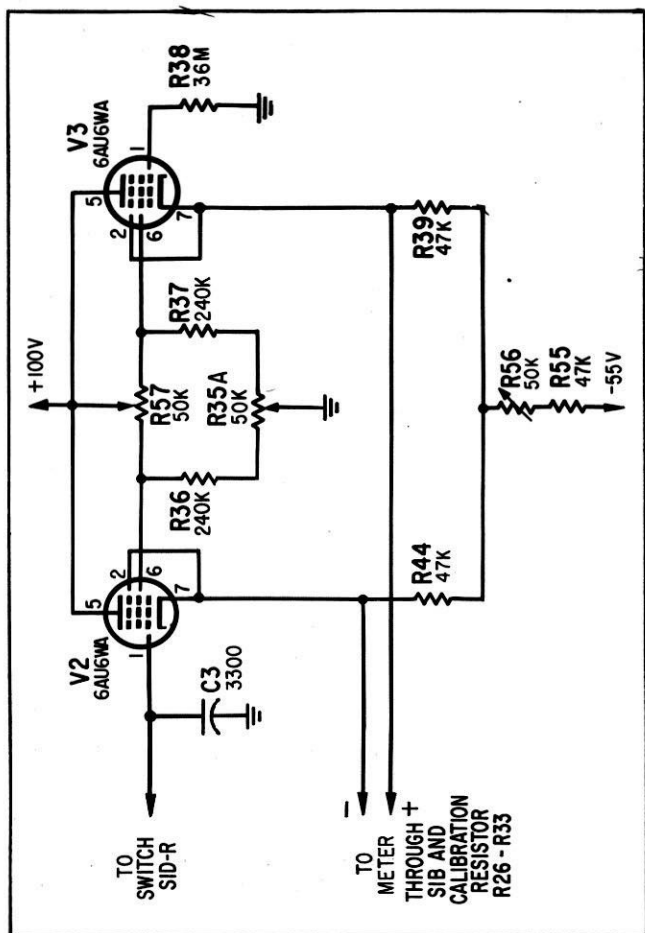

Figure 4-2. Bridge Circuit, Schematic Diagram
a. BRIDGE CIRCUIT (see figure 4-2). - The input selected by the function switch is supplied to a balanced bridge circuit that is common to all voltage and resistance measurements. The bridge circuit consists of two 6AU6WA pentodes in a balanced dc circuit. The meter is connected between the cathodes of the two pentodes and indicates the degree to which